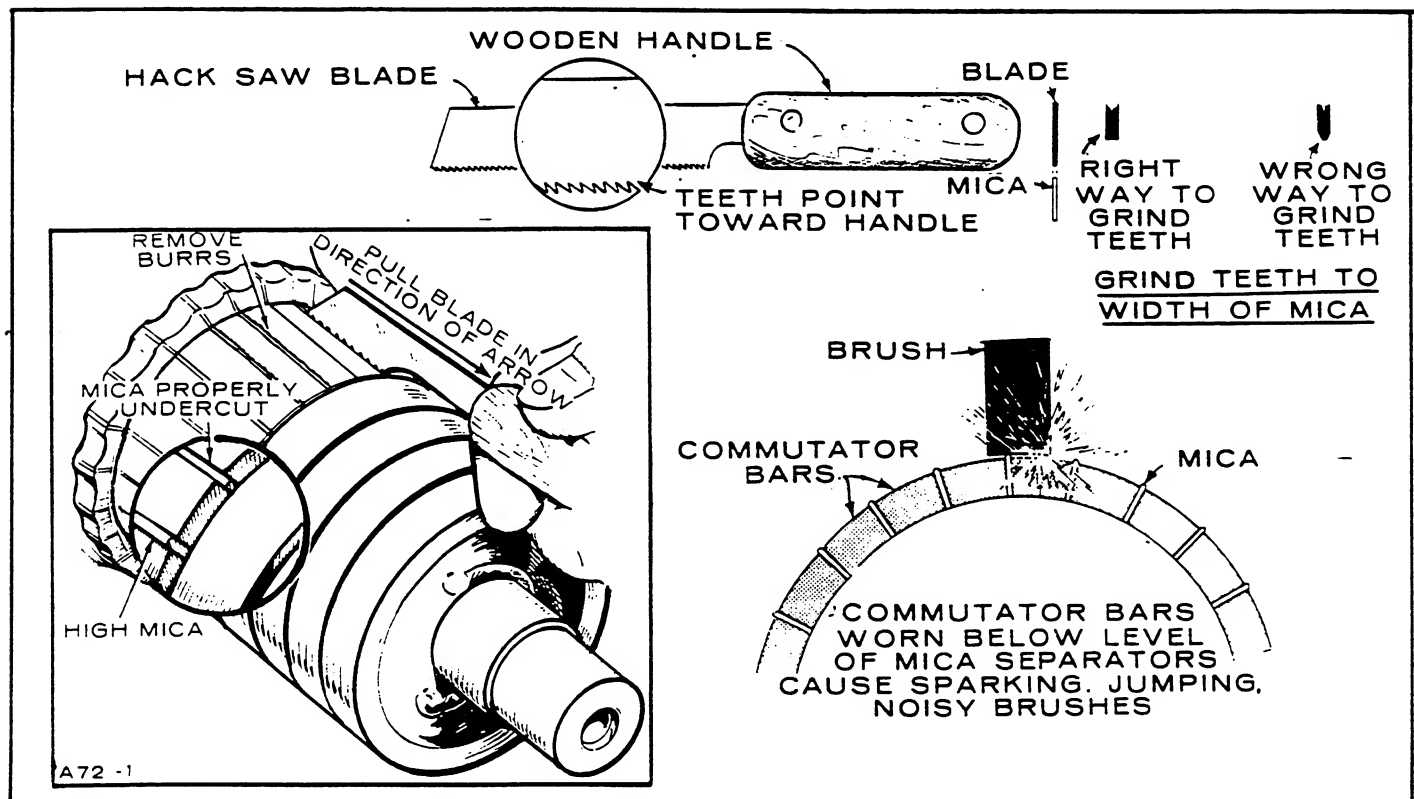

FIGURE 40. UNDERCUTTING COMMUTATOR MICA
The procedure is mostly self-evident (see Figure 40). Remove the band and end cover. Lift all brushes using alligator clips (12) or in an emergency the leads may be bent over the sides of the holder.
When the commutator wears down so that the mica insulation between any bars comes in contact with the brushes, it will cause the brushes to "jump", spark, be noisy in operation and wear rapidly. Sparking brushes lower the efficiency of the generator and burn the commutator (Figure 40). When a "high mica" condition exists or after commutator has been turned on a lathe, mica insulation requires undercutting.